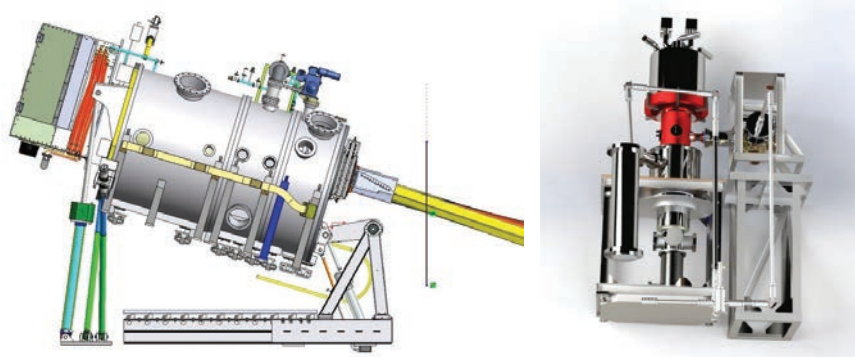
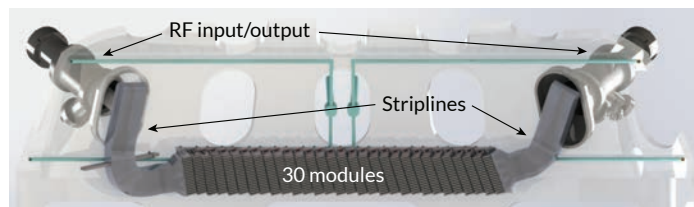

Figure 4. Current DIII-D external heating systems: neutral beam (left) and gyrotron (right).
Figure 5. The helicon antenna featured on the DIII-D tokamak.
THE DIII-D TOKAMAK needs to achieve temperatures that are ten times hotter than the core of the Sun to achieve nuclear fusion. Currently, two systems (Figure 4) are used to achieve this: a neutral beam system (which injects 20 MW of power in the form of high-energy deuterium atoms) and the electron-cyclotron heating (ECH) system (where gyrotrons are used to inject up to 4 MW of microwave power to heat electrons). A novel heating system using a helicon antenna (Figure 5) that can inject 1 MW of radio frequency (RF) power is being designed and built.